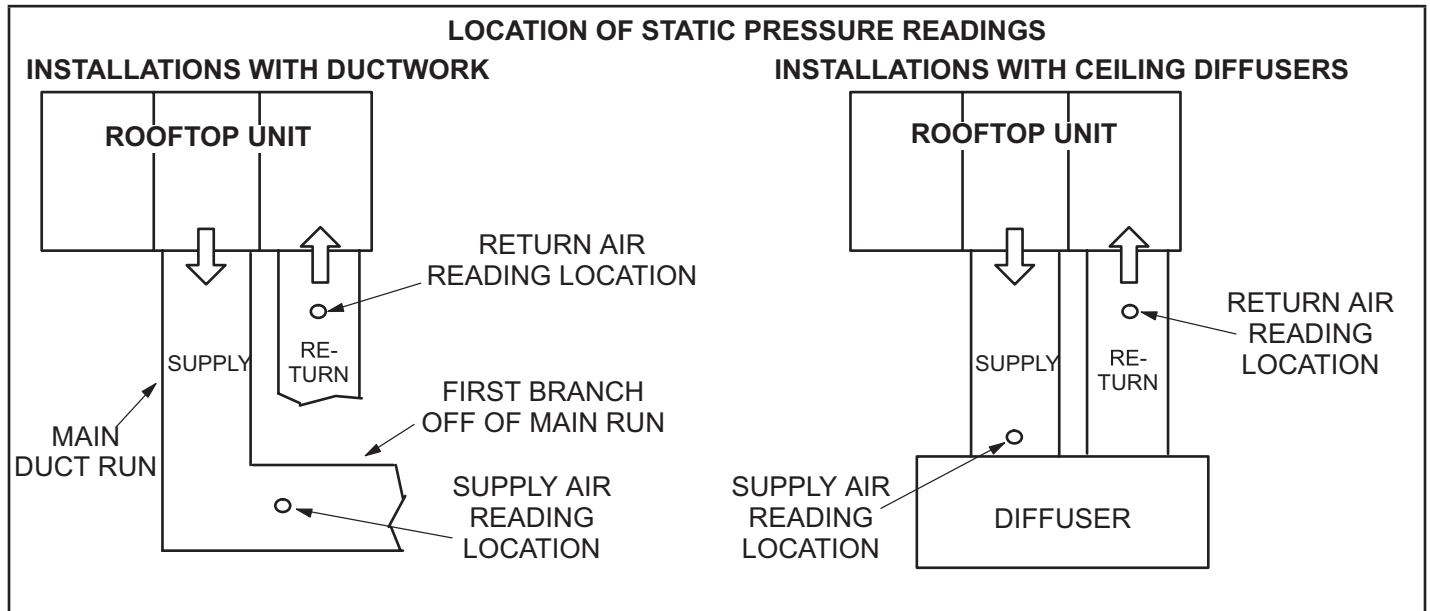

Figure 30
2. With all access panels in place, measure static pressure external to unit (from supply to return). Blower performance data is based on static pressure readings taken in locations shown in Figure 30.